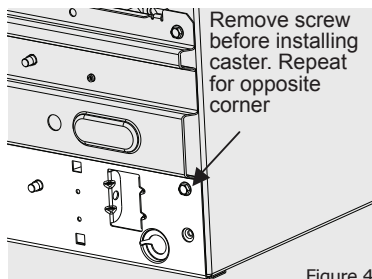

Figure 4
1. Remove and discard the screws shown in Figure 4 from each bottom corner using a $\frac{5}{16}$ " socket wrench.